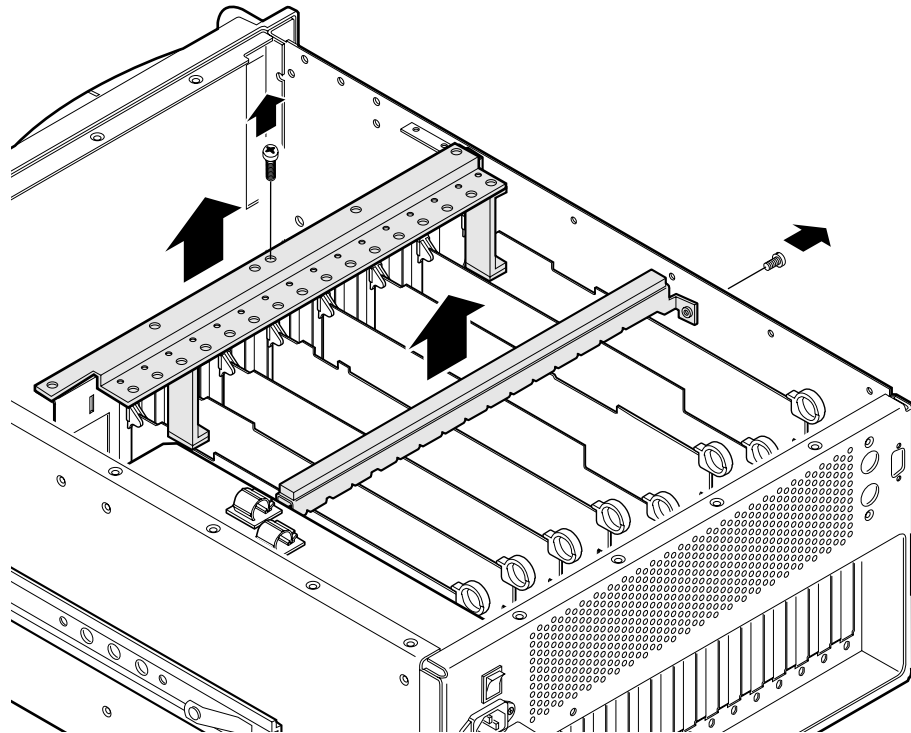

Figure 1-2 Removing the circuit board hold-downs
3. Remove the two circuit board hold-downs as shown in Figure 1-2. Both hold-downs are held in place by T-10 TORX head screws, and must be removed in order to install the SCSI adapter board.